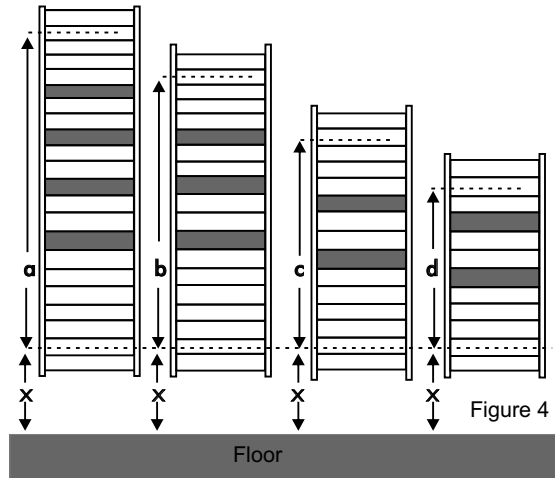

Figure 4
- 4** The stipulated distance between the mounting elements are shown in Figure 4 according to different radiator types.